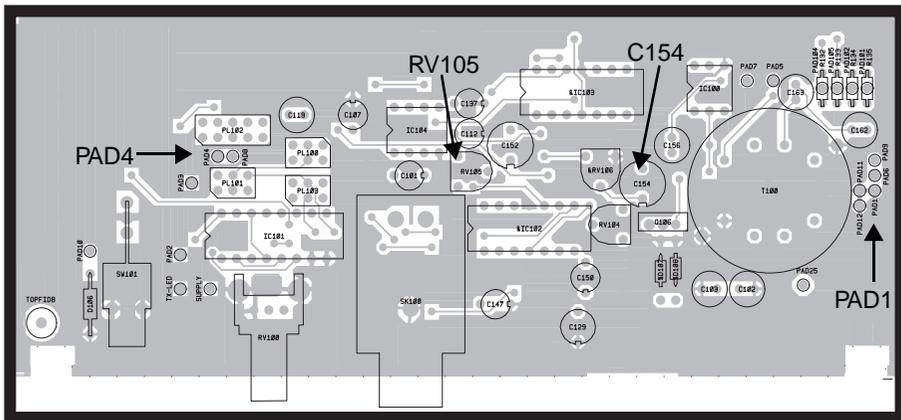

Figure 4 T800 Transmitter Audio Processor - Top Side
- Remove C154 and RV105 from the audio processor (shown in Figure 4), and clear the holes of solder.